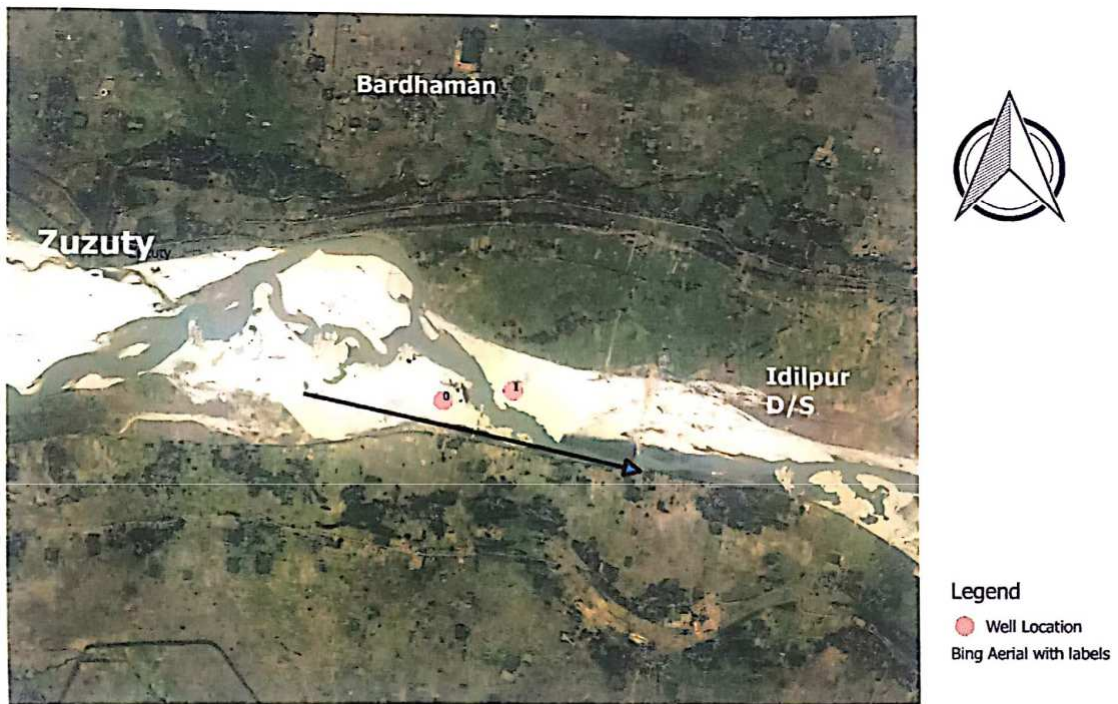

Figure 6.5: Recommended location for collector Well
- Two radial collector wells, are recommended (GPS location of point -0 23°14'48.12", 87°45'2.32"E and point-1 23°14'47.11"N 87°45'2.04"E) and depicted in Figure 6.5